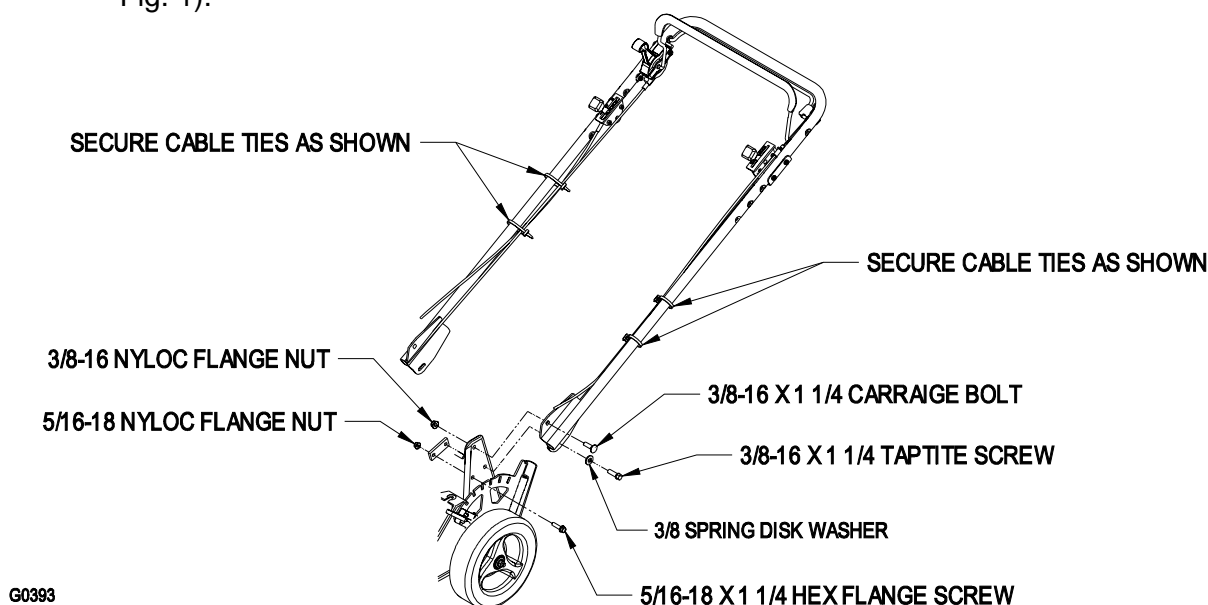

FIGURE 1
1. Mount the handle to the outside of the lawn mower housing on each side as shown Fig. 1).
2. Move cable ties on each side of the handle bar into the locations shown and tighten Fig. 1).